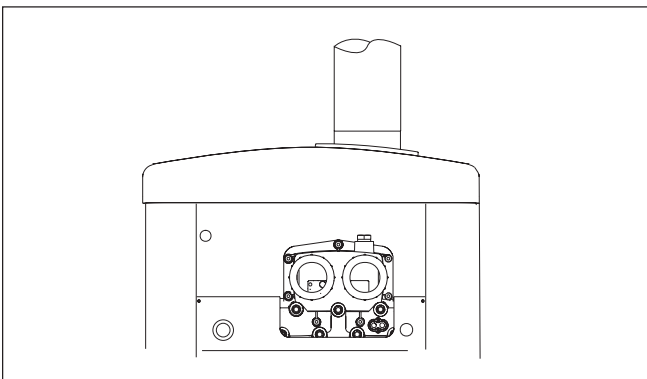

Figure 7. Vent Pipe Installation
3. Install the vent pipe on the indoor vent collar. The collar will accommodate vent piping of nominal 7" or 9" diameter (see Table 4), depending upon the model of your heater (See Figure 7). See vent installation section for important information on selecting proper pipe size.
In general, these requirements specify that the room in which a heater is installed should be provided with two permanent air supply openings; one within 12 inches (305mm) of the ceiling, the other within 12 inches (305mm) of the floor. All indoor installations must have openings to outside air for combustion, ventilation, and dilution of flue gases from inside the building (see Figure 7 and Table 3). Jandy Pool Products, Inc., does not recommend indoor installations that do not provide combustion air from outside the building.
The vent collar outlet is to be connected to an unobstructed vent pipe of the same diameter, terminating outside the building. The vent must terminate at least two (2) feet (0.6 m) above the highest point of the roof or other object that is within ten (10) feet (3.0 m) of the vent termination. The vent pipe must have a listed vent cap which allows a full equivalent opening for flue products (see Figure 7).